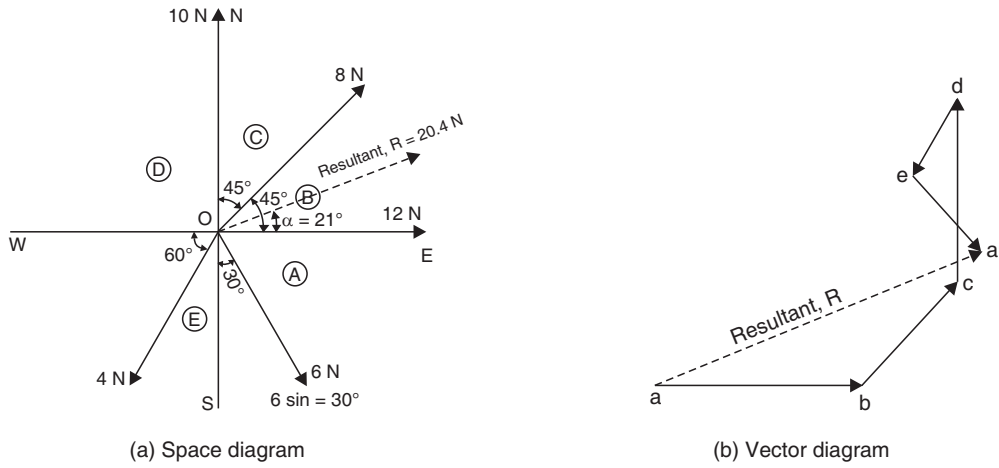

Fig. 2.22
**Sol.** Refer to Fig. 2.22.
**Sol.** Draw space diagram as in Fig. 2.22 (a) showing relative positions of the lines of action of the various forces acting on point O.
Draw vectors  $ab, bc, cd, de, ea$  to represent to some scale, the forces 12 N, 8 N, 10 N, 4 N and 6 N respectively [Fig. 2.22 (b)].